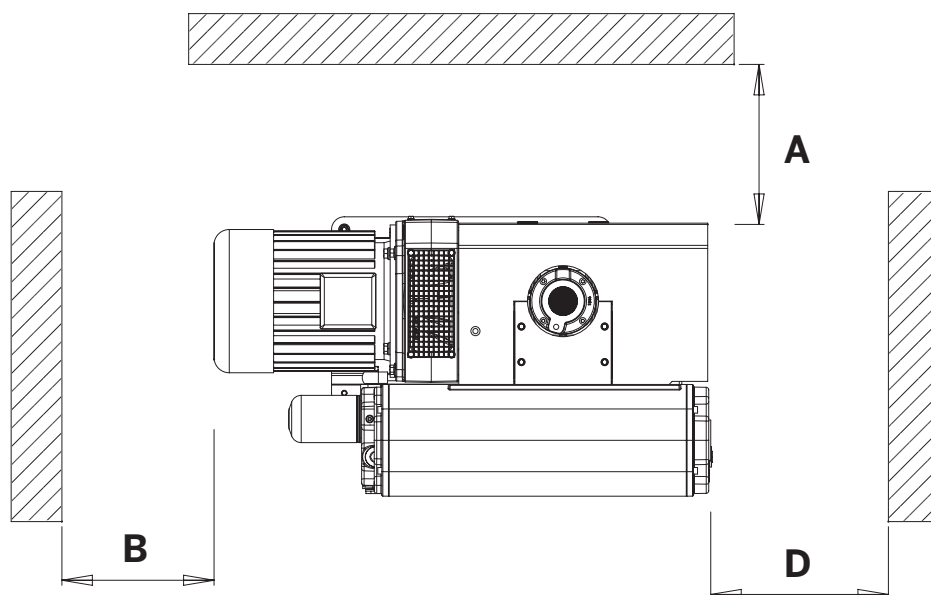

Fig.6
- It must be accessible for correct and easy maintenance, by respecting the minimum distances from possible obstructions (see figure 6).